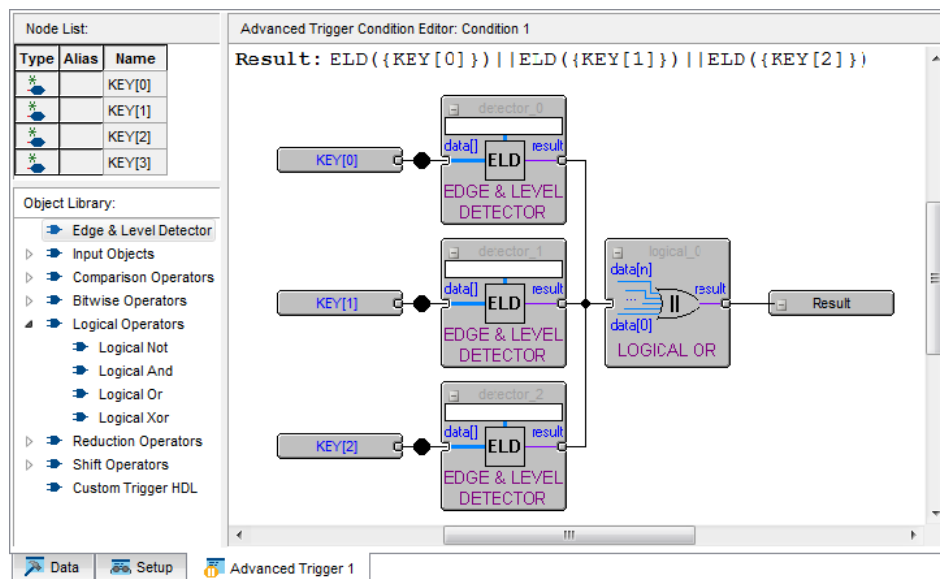

Figure 21. Arrange the elements to create a circuit that looks like this.
- In the object library click Edge and Level Detector and drag this into the editing window. Do this three times and then arrange the circuit as in Figure 21. The three inputs should each be connected to the input of an edge and level detector and the output of each of these detectors should be connected to the OR gate. The output of the OR gate should be connected to the output pin already in the editing window.